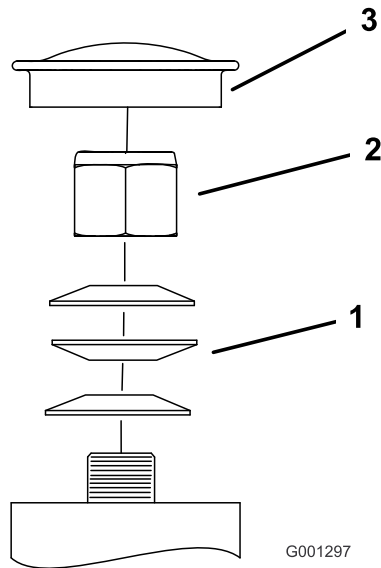

Figure 76
3. Remove the dust cap from caster and tighten the locknut (Figure 76).
4. Tighten the locknut until the spring washers are flat, and then back off a 1/4 turn to properly set the preload on the bearings (Figure 76).
**Important:** Make sure that the spring washers are installed correctly as shown in Figure 76.
5. Install the dust cap (Figure 76).